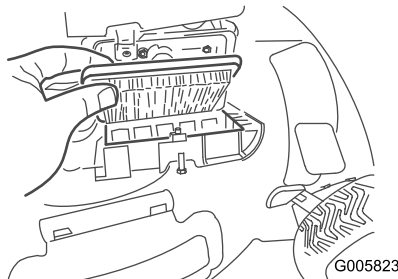

Figure 44
2. Replace the air filter (Figure 44).